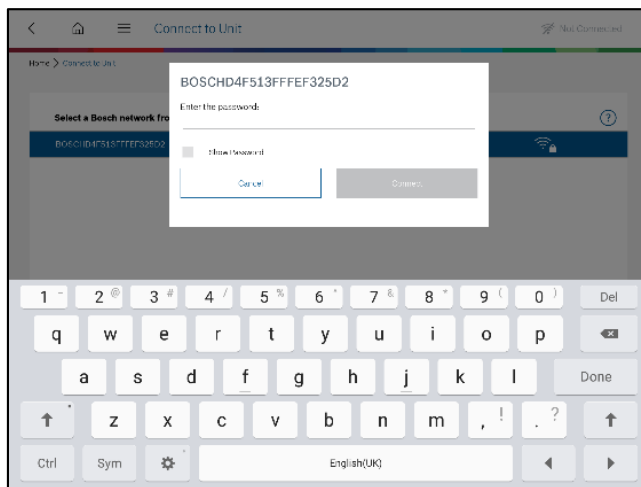

Figure 17: Enter Password
4. By choosing “Connect by entering password”, the user will need to look on the Wi-Fi WIM to obtain the password and enter it in the opened popup window. Next, tap continue. See the figure 17.